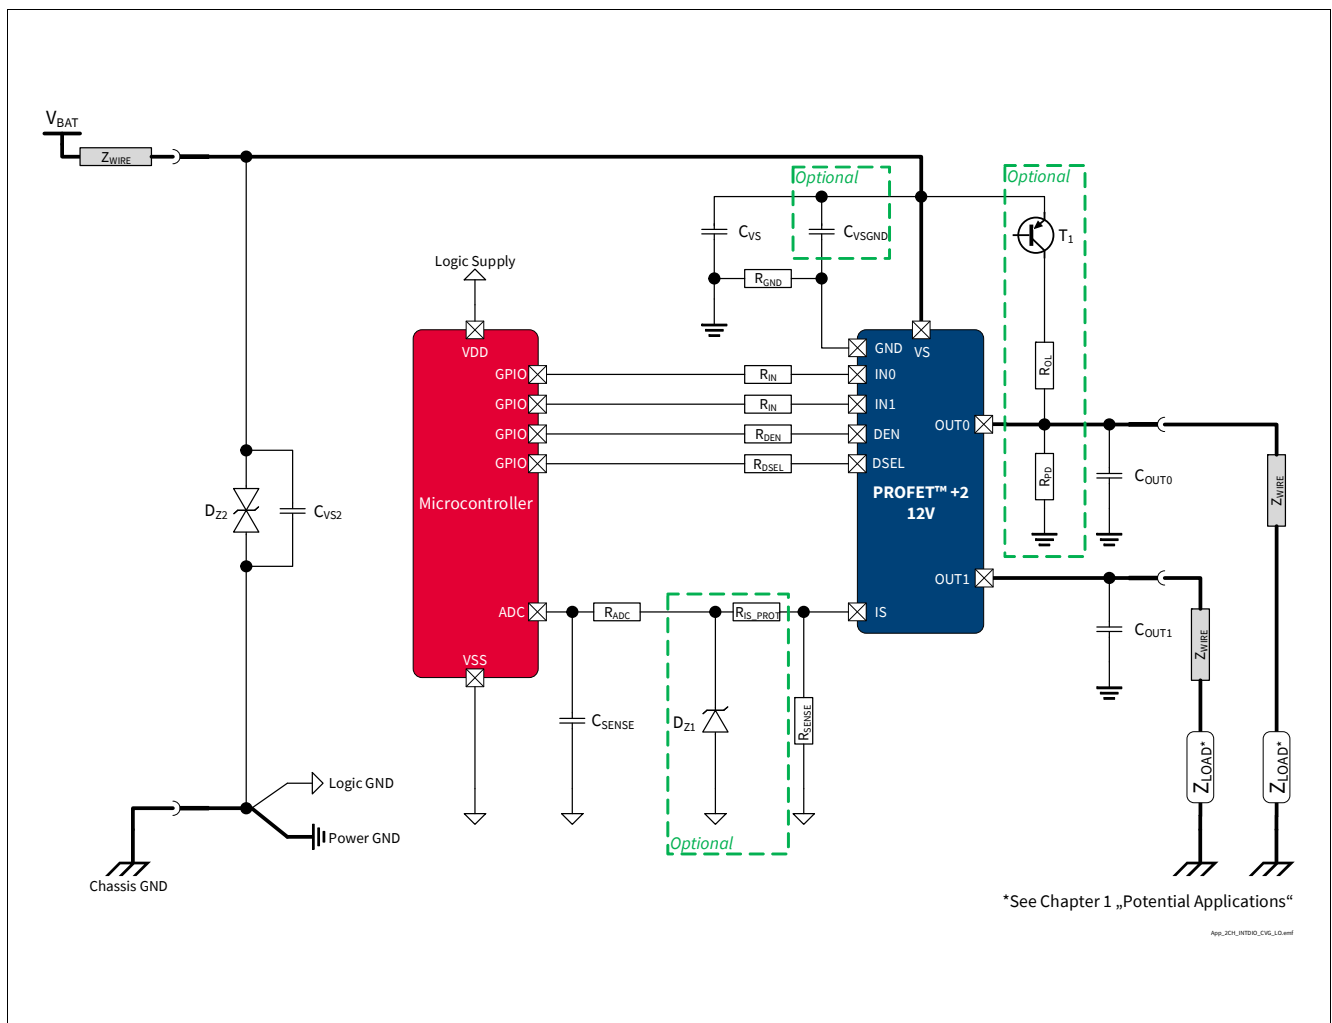

Figure 43 BTS7010-2EPA Application Diagram
1.05, 2019-10-15	<p>P_8.7.2.1, P_8.7.2.7, P_8.7.2.8 updated (added in Note or Test Condition: link to Figure 25)</p> <p>P_7.5.2.4, P_7.5.2.5 updated (added in Note or Test Condition: DEN = “low”; link to Figure 19)</p> <p>P_7.5.2.12 updated (added in Note or Test Condition: see Figure 21)</p> <p>P_8.7.2.6 updated (added in Note or Test Condition: see Figure 26)</p> <p>P_9.7.2.1 updated (added in Note or Test Condition: See Figure 34)</p> <p>P_9.7.2.6 updated (Min./Max.: -45%/+45% → -34.5%/+34.5%)</p> <p>P_9.7.2.9 updated (Min./Max.: -38%/+38% → -25.5%/+25.5%)</p> <p>P_9.7.2.12 updated (Min./Max.: -34%/+34% → -22.5%/+22.5%)</p> <p>P_9.7.2.15 updated (Min./Max.: -22%/+22% → -13.0%/+13.0%)</p> <p>P_9.7.2.17 updated (Min./Max.: -9%/+9% → -8.1%/+8.1%)</p> <p>P_9.7.2.19 updated (Min./Max.: -6%/+6% → -4.6%/+4.6%)</p> <p>P_9.7.2.21 updated (Min./Max.: -5%/+5% → -3.9%/+3.9%)</p> <p>P_7.5.2.11 updated (added in Note or Test Condition: see Figure 19)</p> <p>Figure 1, Figure 43 updated</p> <p>Chapter 1 updated (or LED equivalent → or equivalent electronic loads (e.g. LED modules))</p> <p>P_4.3.0.7 added</p> <p>Table 24 updated</p> <p>Chapter 5.1 updated (added: see Chapter 10 for the complete application setup overview)</p>